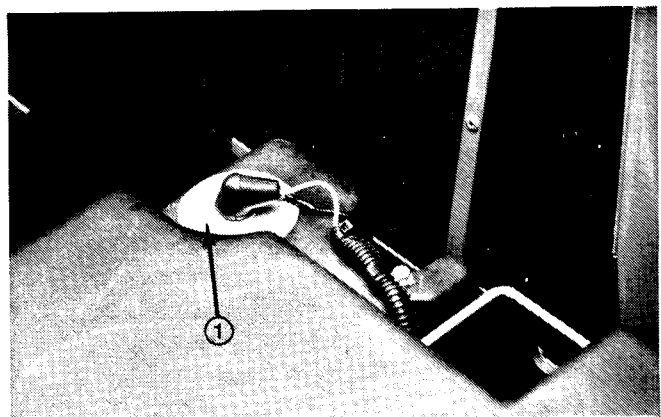

Figure 24
1. Disconnect wire and remove the fuel gauge sender from the fuel tank (Fig. 24).